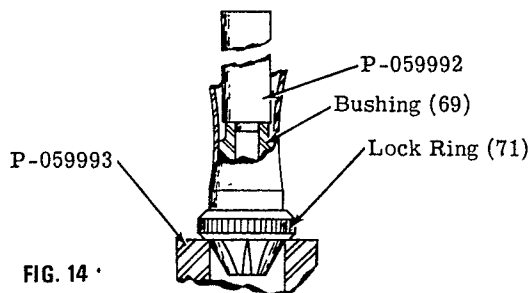

FIG. 14
When disassembling tool, use a 3/32" pin punch to remove roll pin (34). Support tool firmly on a suitable surface and drive pin out carefully to avoid damage to cylinder (65) or inlet (32). Take precautions to avoid losing roll pin. When removing sleeve valve (14) align mark on sleeve with "OFF" on inlet (32) to avoid cutting "O" ring (7). To remove accessory bushing (69) support lock ring (71) on bore of P-059993 Holder and press bushing out of cylinder sleeve (60) from interior of sleeve with P-059992 Drift. See illustration (Fig. 14)